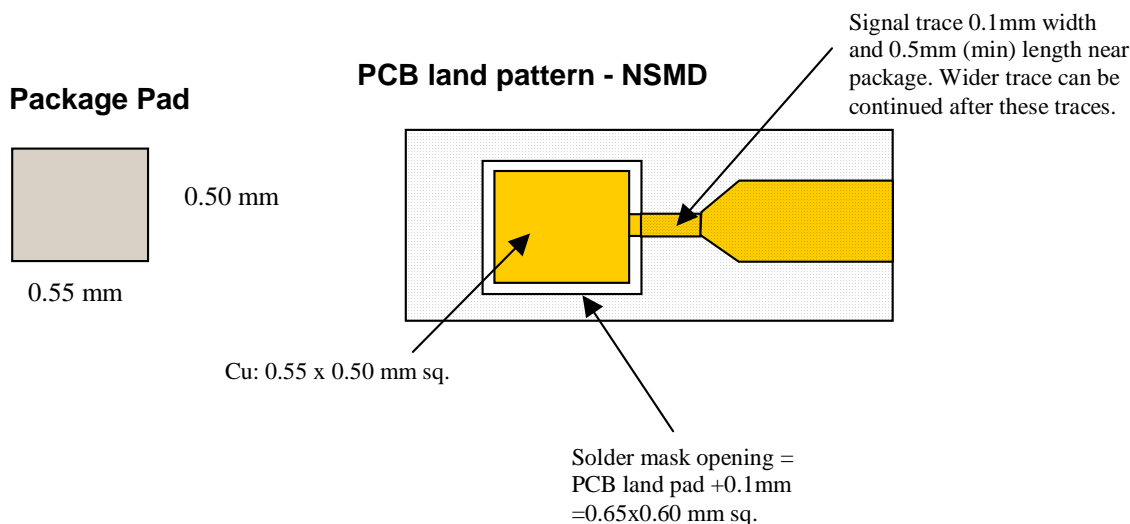

Figure 8. NSMD Solder Mask Design Guidelines
1. NSMD (Non Solder Mask Defined) is shown in Figure 8.
min. 0.5mm length for all PCB land pad near package are recommended as shown in Figure 8 and Figure 9. Wider trace can be continued after the 0.5mm zone.